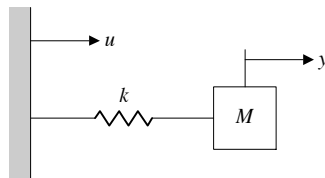

Figure 7.98: Simple robotic arm for Problem 7.52.
52. A simplified model for the control of a flexible robotic arm is shown in Fig. 7.98, where